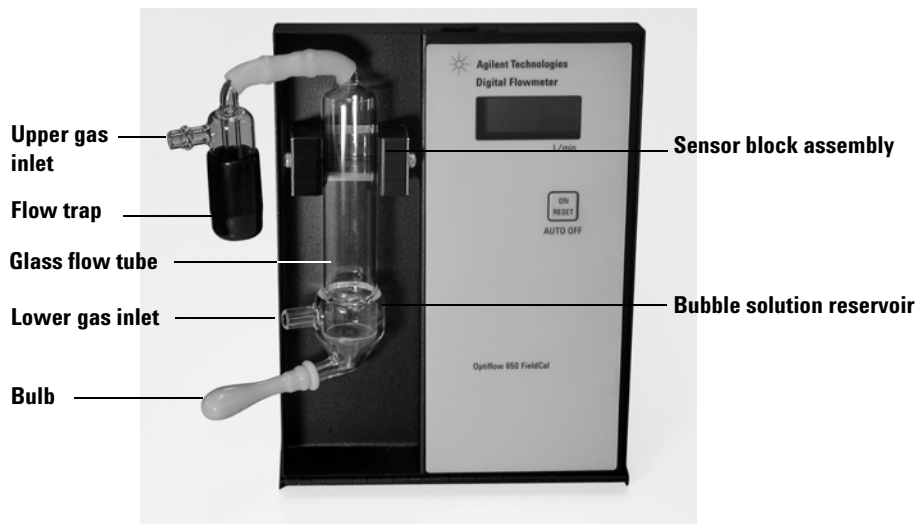

Figure 3 The Agilent Optiflow 650 Mobile Digital Flowmeters tubing assembly
- 1 Insert the glass flow tube between the arms of the large sensor block assembly (refer to Figure 3).
- 2 If needed, install the glass flow trap as shown in Figure 3.